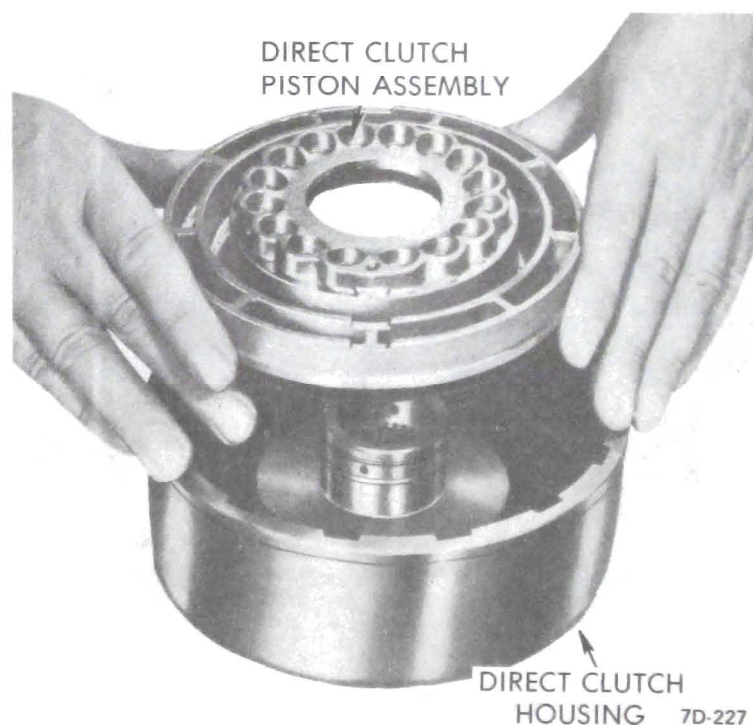

Figure 7D-227
6. Remove retainer and fourteen (14) piston release springs. Keep these springs separate from forward clutch release springs. See Figure 7D-225.